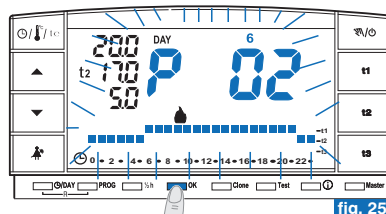

fig. 25
- After reading the program, press **OK** to reactivate it (if this is not possible, the chronothermostat reactivates the program set initially after 3 minutes) example in fig. 25.